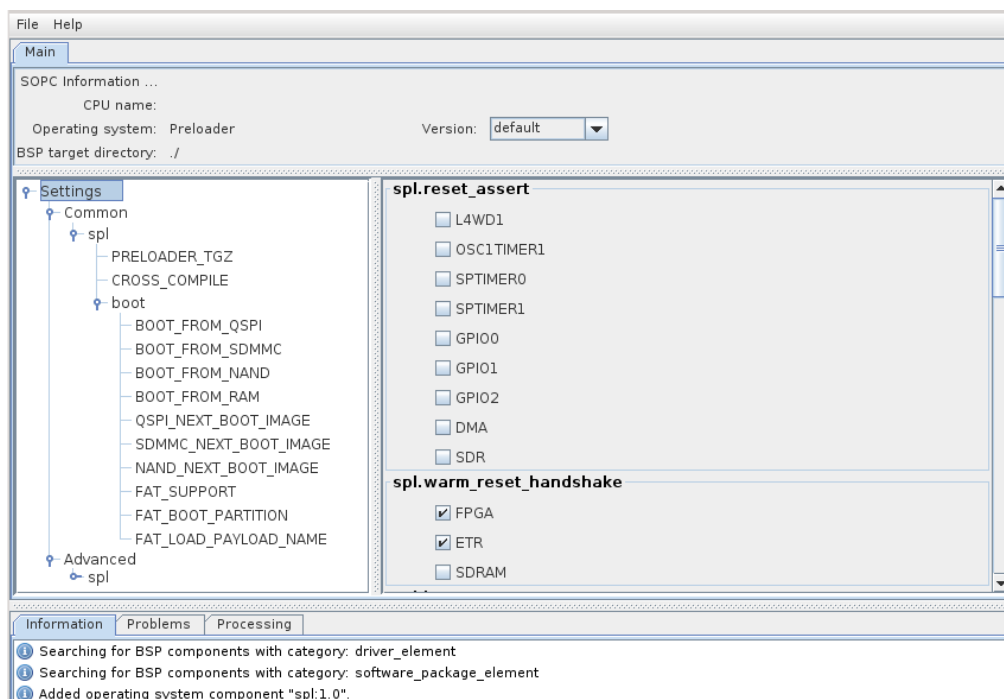

Figure 8-29. Preloader Settings Dialog
- c. Press the “OK” button. You should then arrive on a page with many settings, as shown on Figure 8-29. Take some time to read through them to see what the preloader has the ability to do.
6. On the main settings page of Figure 8-29, we will only need to modify 3 parameters for our design.